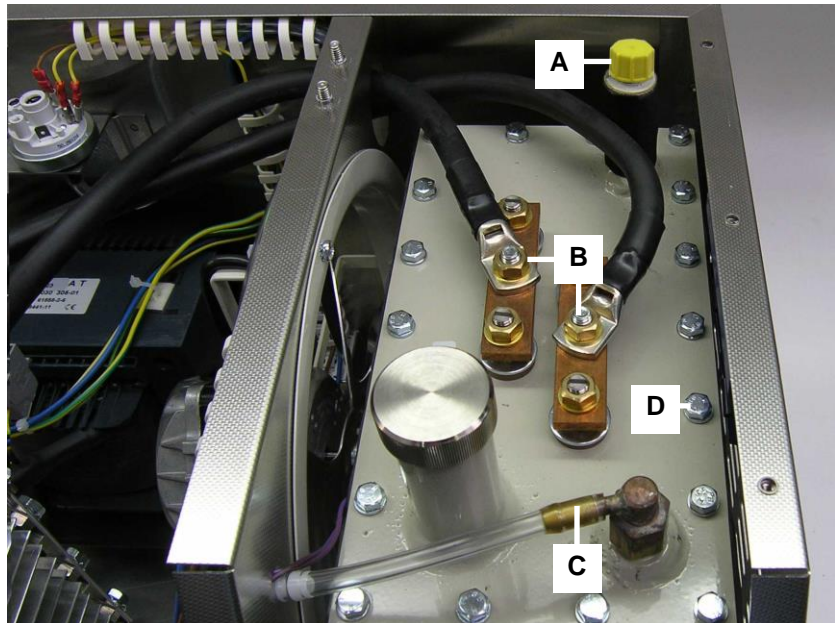

Fig. 7.4.1 Reactor connections and reactor cover screws
2. Remove the cover as described in *Section 5.5*. Close the reactor outlet with the original yellow protecting cap (if still available) or with another suitable cap (see *fig. 7.4.1.A*). This will prevent remaining electrolyte from escaping when the unit is tipped over.
4. Unscrew the electric cables from the reactor (see *fig. 7.4.1.B*); pull off the gas hose (C).
1. Unscrew the 18 screws (*Section 7.4 fig. 7.4.1.D*) from the reactor cover, remove the reactor cover complete with the electrodes from out of the reactor housing.